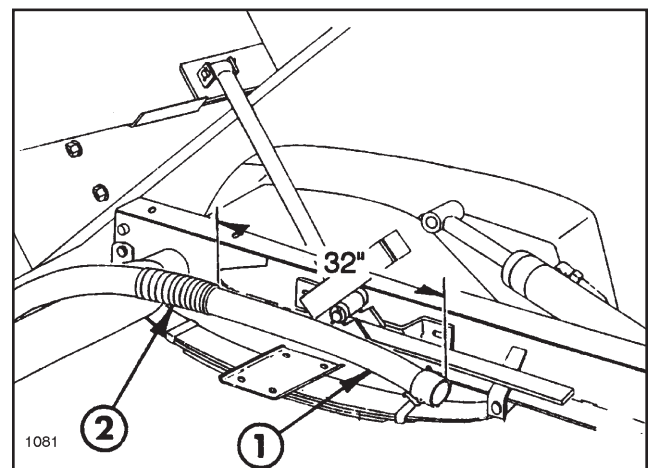

FIG. 17
10. Install the Protective Hose Loom on the 100" Pressure Hose as shown in FIG. 17. Secure loom to hose by tightening a tie strap around each end of loom so that loom does not shift front to rear.